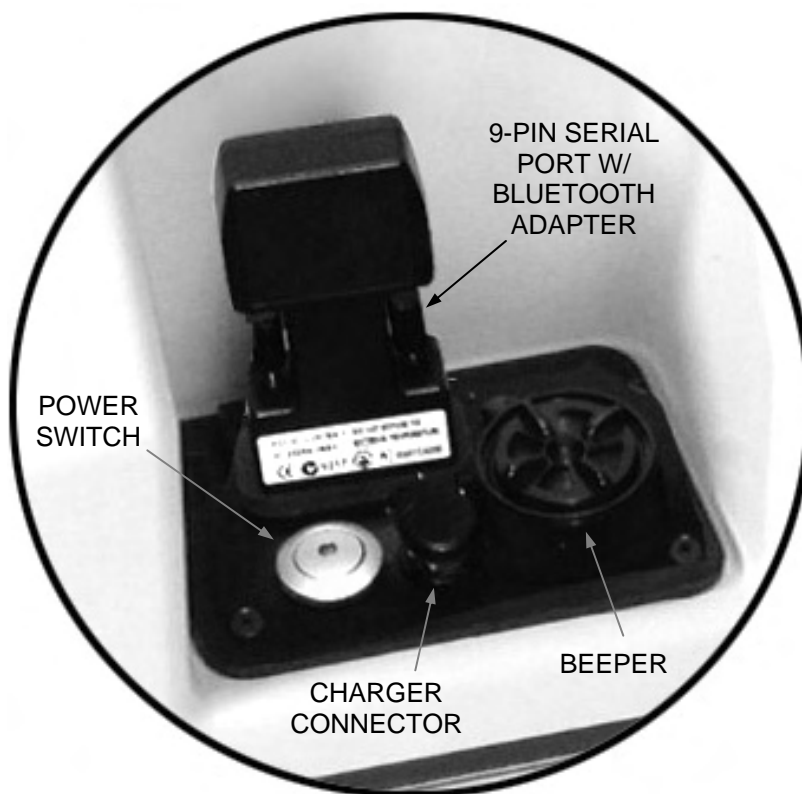

Figure 4–3. Gauge Back Panel
4. Connect one end (male) of an RS-232 *straight-through* serial cable (*not* a null modem cable) to the gauge's RS-232 port (see Figure 4–3). Connect the other end either directly to the RS-232 serial port of the computer or to the RS-232 port of the calibration bay cable switch box (see Figure 4–4), specifically to the *B* port, which is labeled either *3430/3440 Plus* or *345x*.